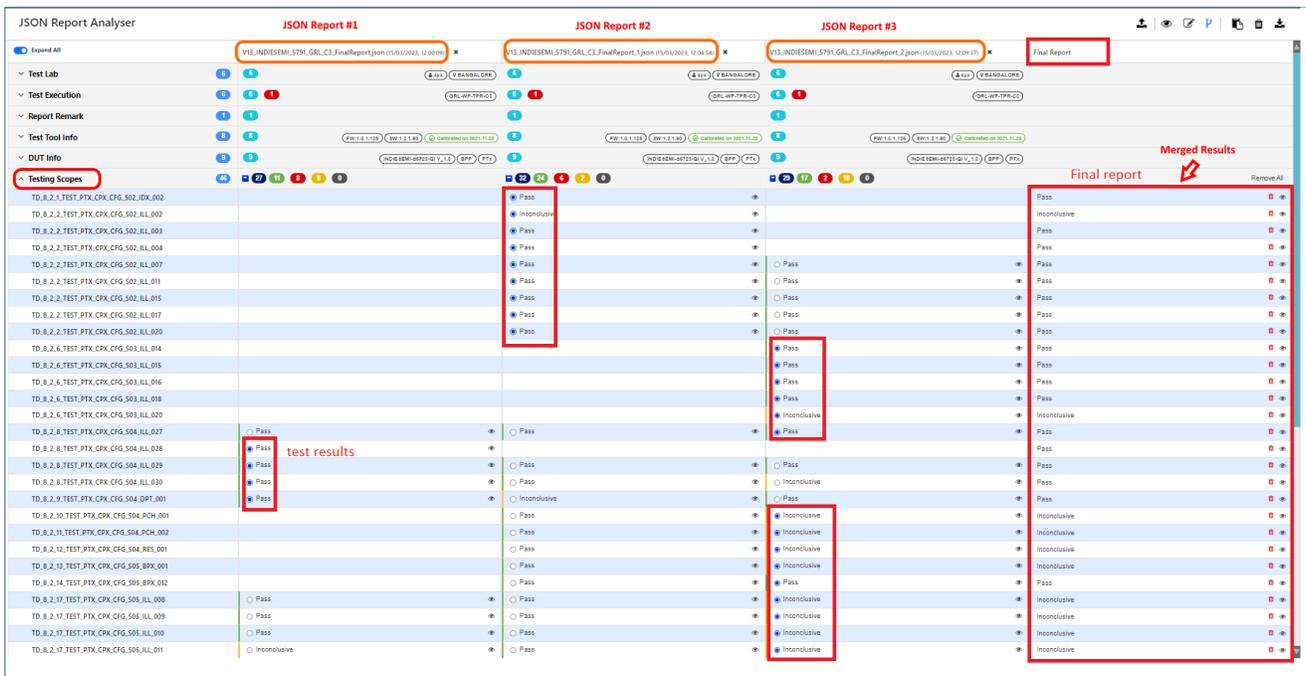

FIGURE 8.91: MERGED TEST RESULTS FROM MULTIPLE JSON REPORT FILES
- – Click on this icon to view a summary of the JSON report. An example is as shown in Figure 8.91 below which displays the number of test cases with their respective test run results for each JSON report.
- Then click on the Testing Scopes data field and select the test results from JSON Report #1, JSON Report #2 and JSON Report #3 as indicated in the Figure 8.91 example below. The selected test results will be reflected under “Final Report” as merged results.